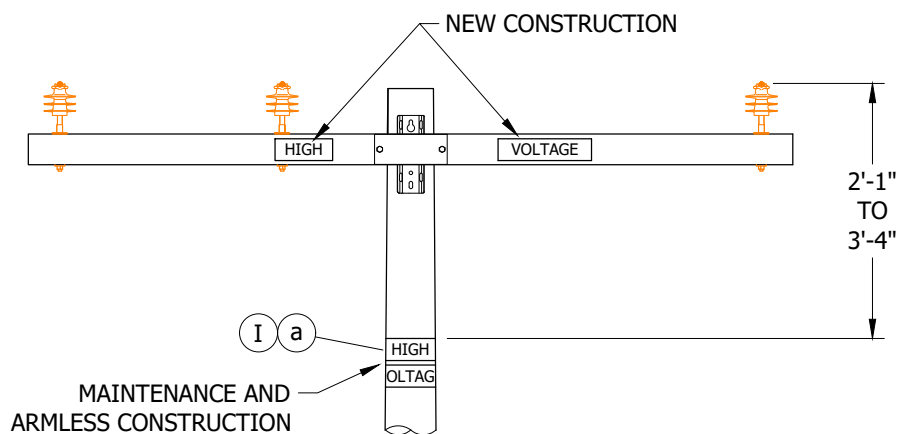

FIGURE 1
- ① CORRECTIVE MAINTENANCE: BROKEN, DETERIORATED OR MISSING CROSSARM "HIGH VOLTAGE" SIGNS MAY BE REPLACED ON THE POLE. THIS IS TO ENSURE THAT A SINGLE Q.E.W. MAINTAINS THE MINIMUM APPROACH DISTANCE FOR 12KV. THE SIGN SHALL BE PLACED NO MORE THAN 40 INCHES BELOW THE LOWEST CONDUCTOR OF THE LOWEST CIRCUIT (SEE FIGURE 1).